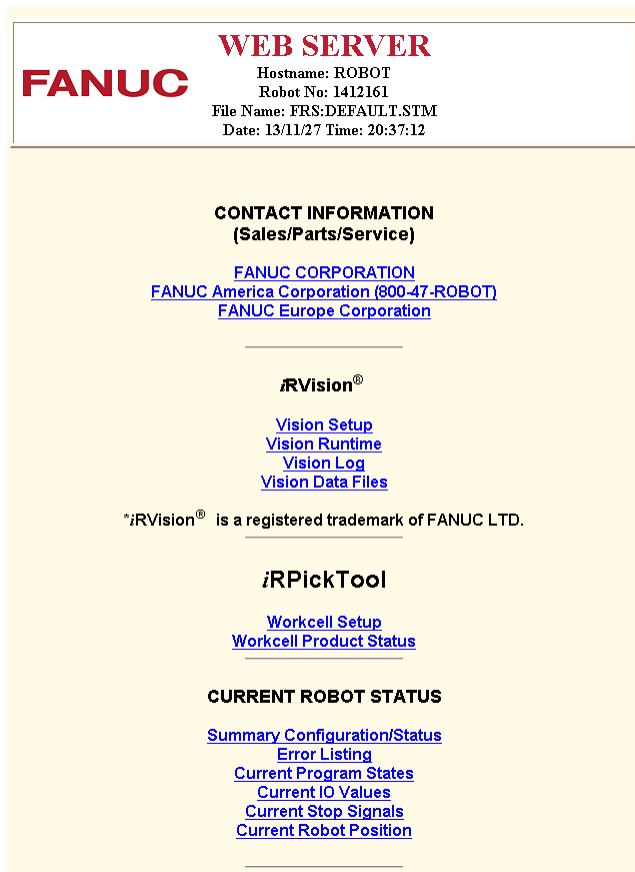

Fig. B.7
- 1 Click [Vision Setup] of *iR*Vision on the screen in Fig. B.7. If Vision UIF Controls are already installed in the PC used, the Vision Setup Page opens. In this case, the processing ends. If Vision UIF Controls are not installed in the PC, the following screen appears.